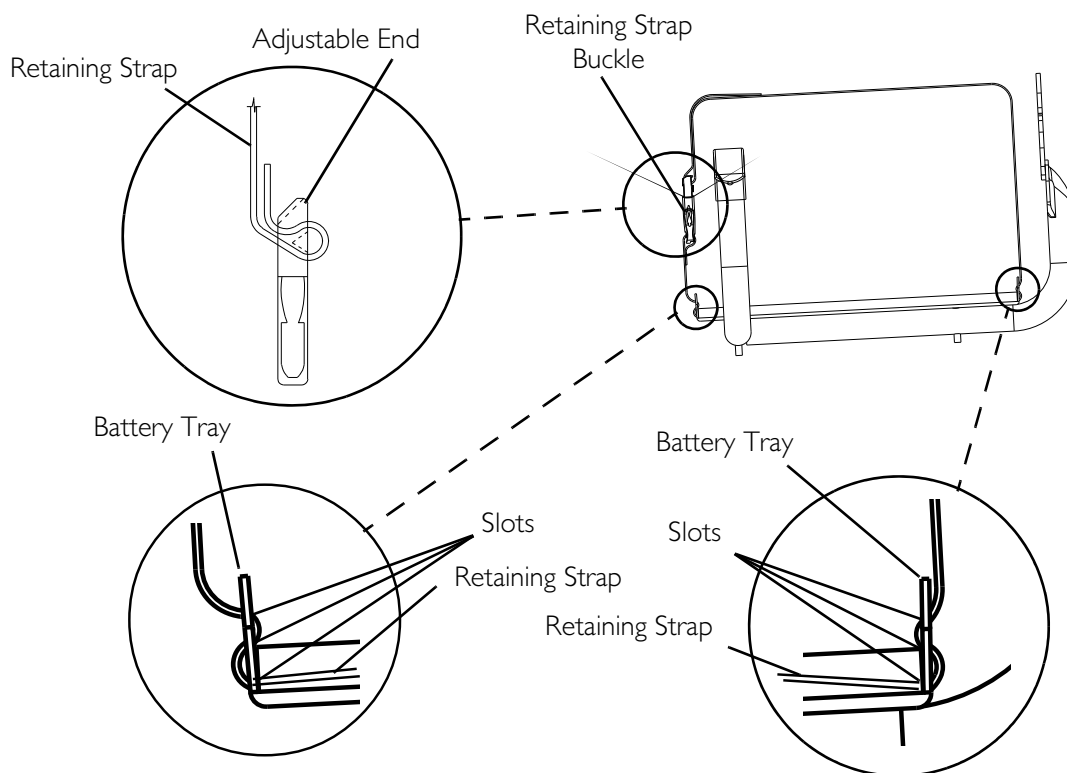

FIGURE 12.10 Replacing the Battery Box Retaining Strap
NOTE: For this procedure, refer to FIGURE 12.10 on page 64.
The retaining strap *MUST* be fed through the adjustable end of the battery box retaining strap buckle as shown in FIGURE 12.10.
5. Install the NEW battery box retaining strap by reversing STEPS 3 and 4 as shown in FIGURE 12.10.